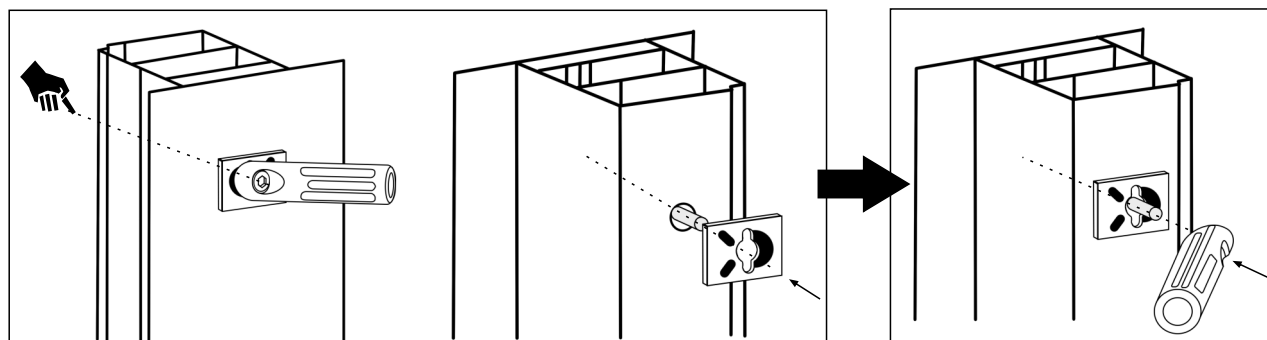

Figure 37
2. Repeat the operations in step 1 on the other side of the door leaf, but the handle holder must be threaded (figure 37). After measuring the required length of the screw, cut it.